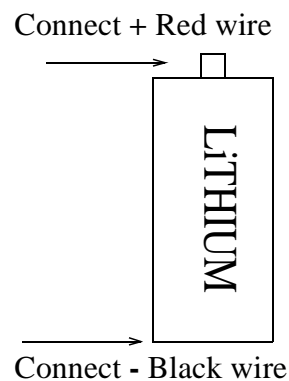

FIGURE 11.1.2.1: Connecting the Battery Connector
- ① Turn the power OFF.
- ② Then, remove the battery from the holder.
- ③ Fit the new battery in the holder and insert the connector. Although the connector may be inserted in either direction, it must be securely inserted. Otherwise, the power will not be supplied by the battery. (See Fig. 11.1.2.1)